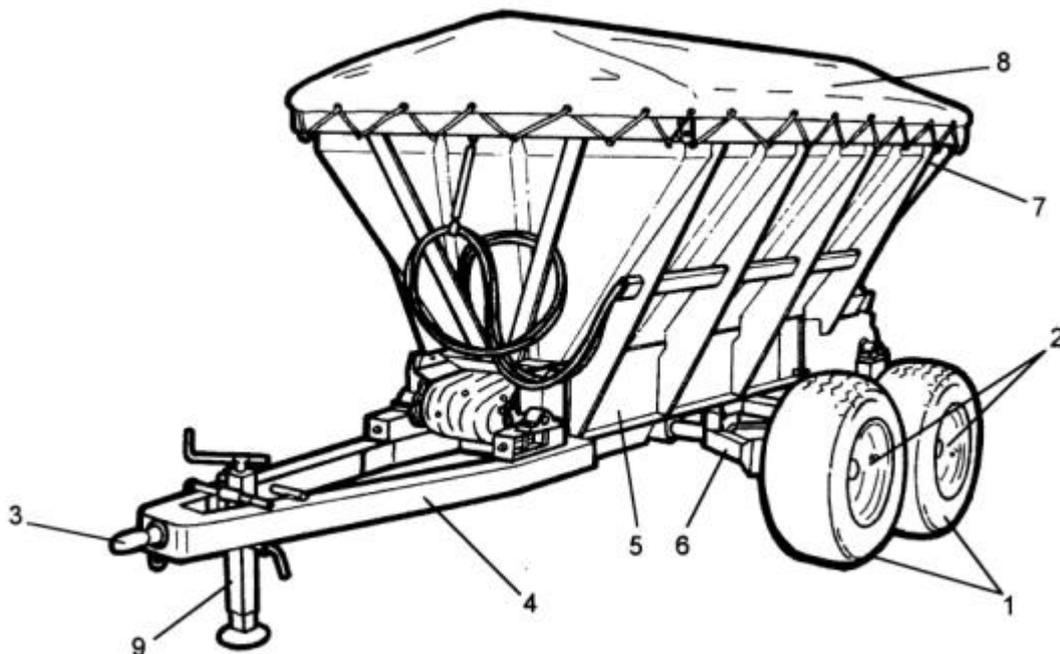

Figure 2
- Check the tyres for signs of wear, cuts and impact damage (1). Check the tyre pressure (Fig 2).
- Check the torque on all wheel nuts (2) (Fig 2).
- Check the condition of the towing eye (3), tow-bar frame (4), machine chassis (5), axle (6), bin (7) and cover (8) for damage and wear (Fig 2).
- Check the jack (9) is fully raised when the spreader is connected to the tractor (Fig 2).